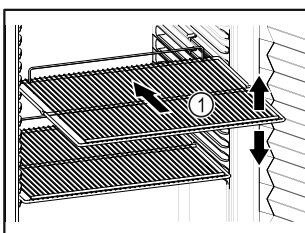

Fig. 82 Example illustration
- ❑ If there are adjustable shelves Fig. 82 (1), position them as required.